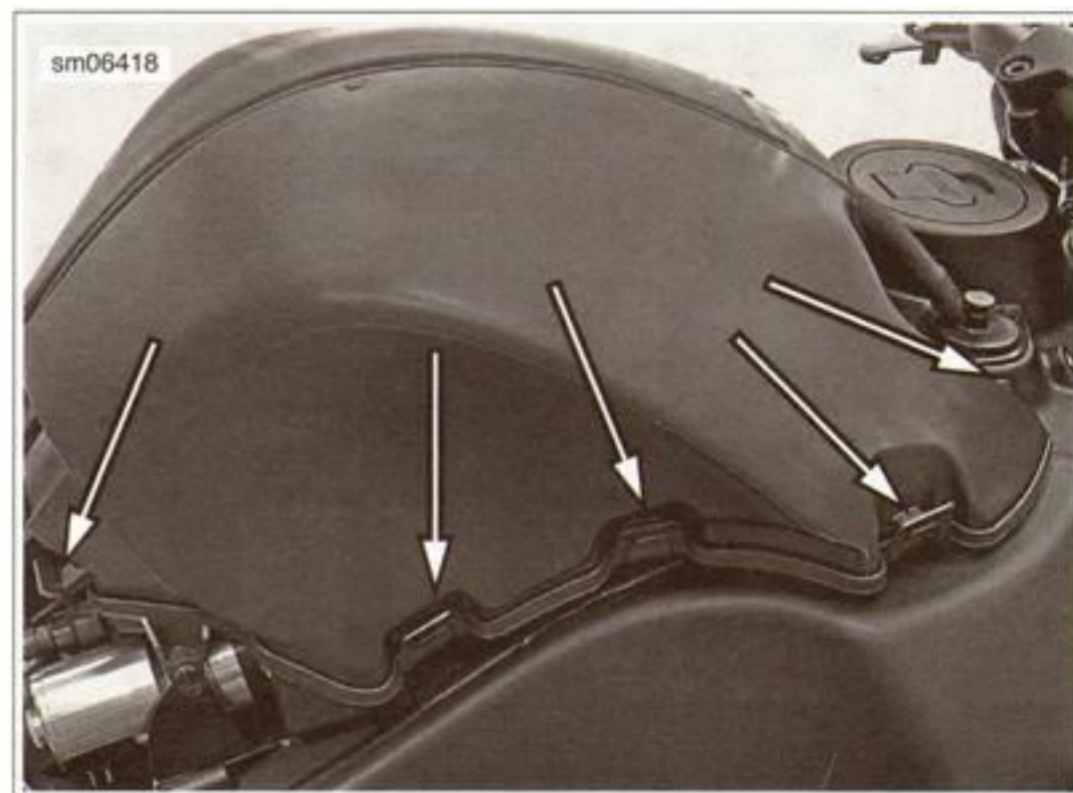

Figure 1-7. Air Filter Cover Release Latches
3. See Figure 1-7. Lift release latches (five on each side) to remove the air filter cover.